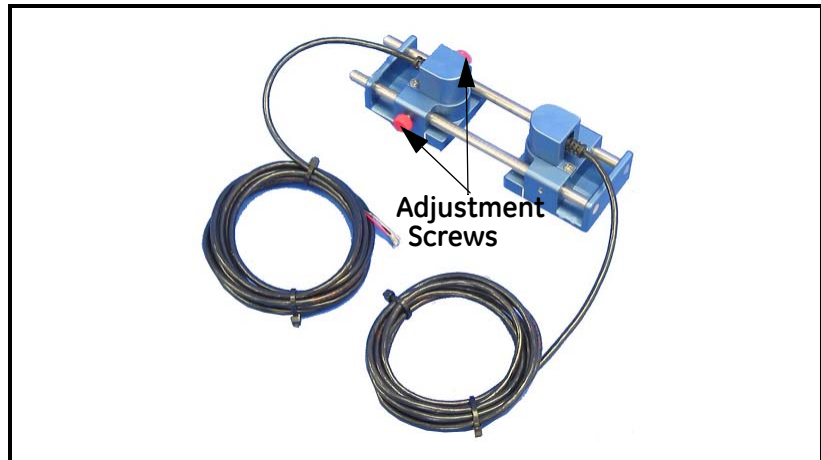

Figure 1-5: ISX878 Transducer/Cable Assembly
The transducers that have been specially designed for use with the ISX878 are available in four models: 4 MHz for 1/2 to 2 in. pipes; 2 MHz for 1/2 to 8 in.; 1 MHz for 2 to 16 in.; and 500 kHz for 6 to 16 in. They typically support 2-traverse applications. Two styles of transducer are available; one style, intended for smaller pipes, integrates the cable and clamping fixture, while the other style accommodates larger pipes. The preattached cables come in lengths from 6 to 25 ft. (Longer lengths are available by special order. Please consult the factory.) Figure 1-5 below shows a typical ISX878 transducer, while the outline and installation drawing for the clamping fixture appears in Figure 1-30 on page 1-32.
1. Loosen the red screws on the adjustable transducer (shown in Figure 1-5 above).